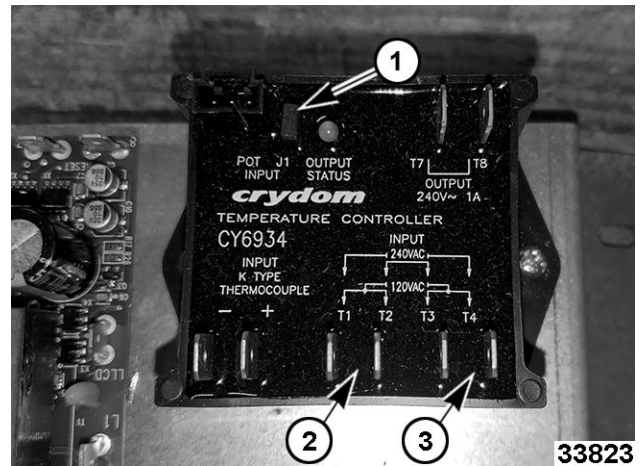

Fig. 12
### 2ND GENERATION TEMPERATURE CONTROLLER SHOWN IN Fig. 12
- Item 1 shown in Fig. 12 is J1 jumper. **REMOVE** J1 jumper when installing a second generation temperature controller.
- Item 2 shown in Fig. 12 connection is both wires going to T1 and T2 equals L1 (HOT).
- Item 3 shown in Fig. 12 connection is both wires going to T3 and T4 equals L2 (NEUTRAL).